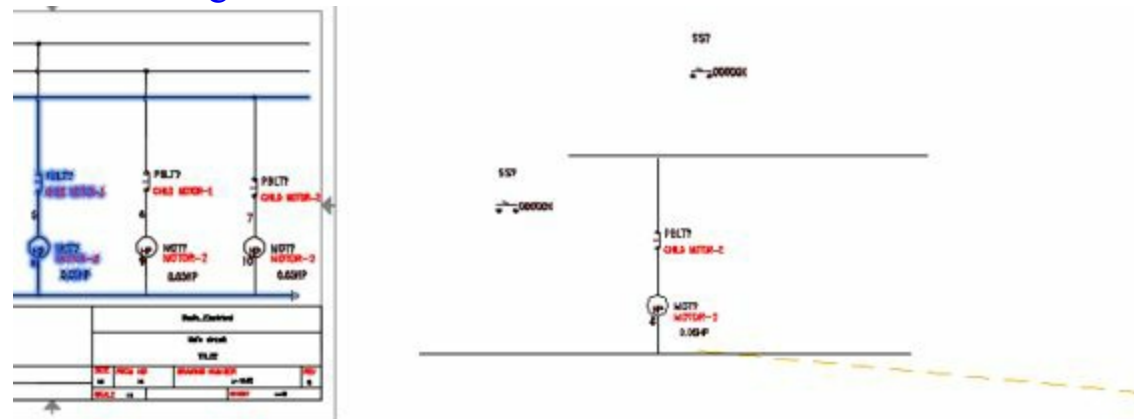

Figure-22. Copying a circuit
- Click to specify the first point of insertion. You are asked to specify the second point of insertion; refer to Figure-22.